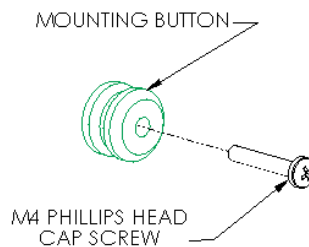
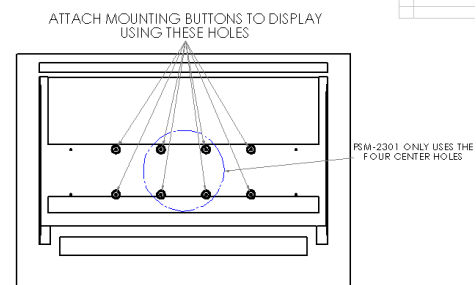

Figure 3
Figure 4
2. Attach mounting buttons to display using M4 x 25 screws provided (see Figure 3 & Figure 4).